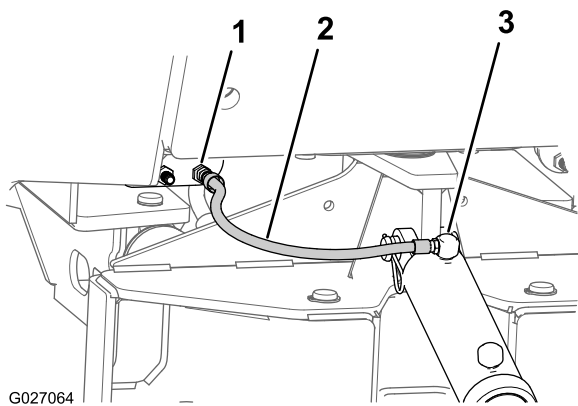

Figure 40
3. Connect the lift cylinder extend hose (3/8 x 23 inches) between the bulkhead fitting for the lift cylinder extend circuit at the right-hydraulic panel and the extend port of the lift cylinder (Figure 40).